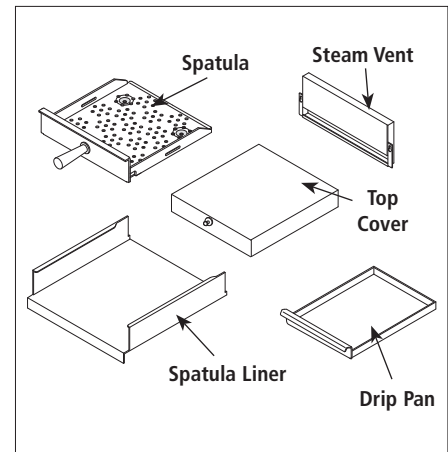

Figure 7. Daily Cleaning-MS-150
2. **MS-150:** Remove the Spatula, Spatula Liner, Drip Pan, Top Cover, and Steam Vent (Figure 7).